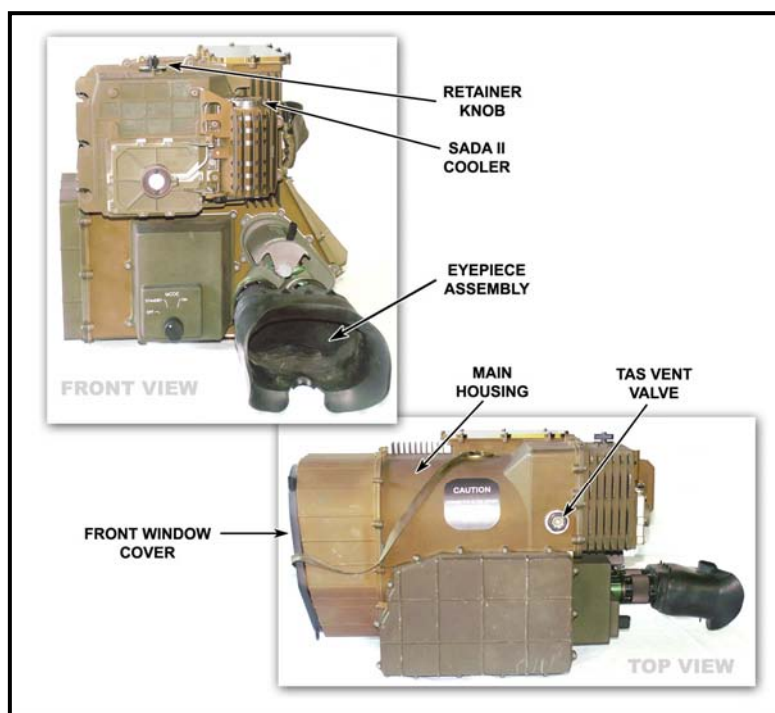
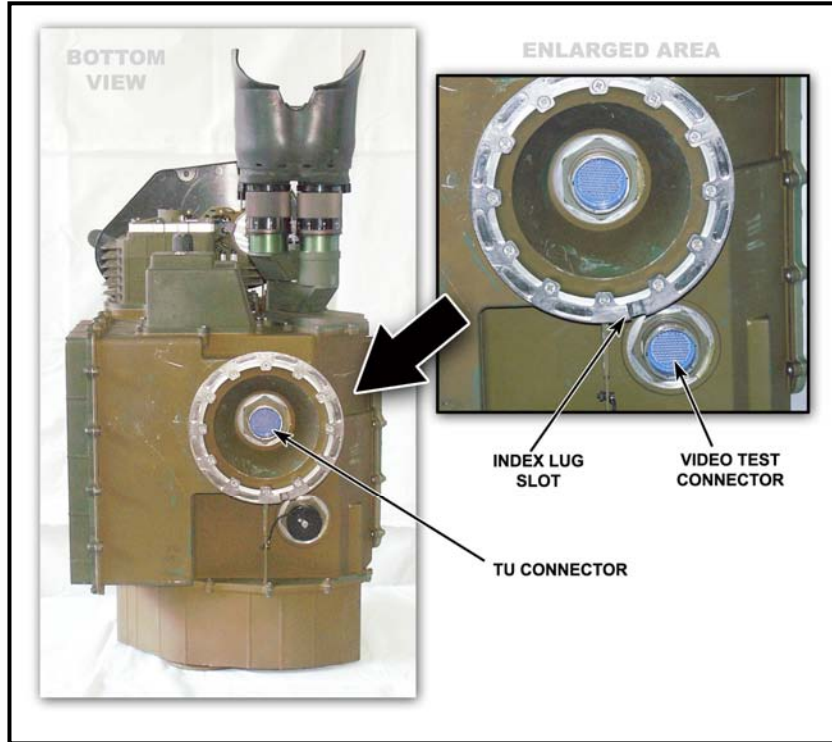

Figure 1-1. Target acquisition system.
Figure 1-2. Target acquisition system (continued).
(1) The TAS (Figure 1-1) provides high-power binocular viewing in both the night vision sight (NVS) and daysight modes of operation. It offers a narrow field of view (NFOV) and a wide field of view (WFOV). The TAS enables the gunner to track targets in darkness and periods of limited visibility.
(2) The TAS receives power from the BPS through the FCS in the dismounted (tripod) configuration, and uses vehicle and BPS power in the mounted (M1121) configuration.
(3) The TAS components (Figure 1-1 and Figures 1-2 and 1-3, page 1-4) are: